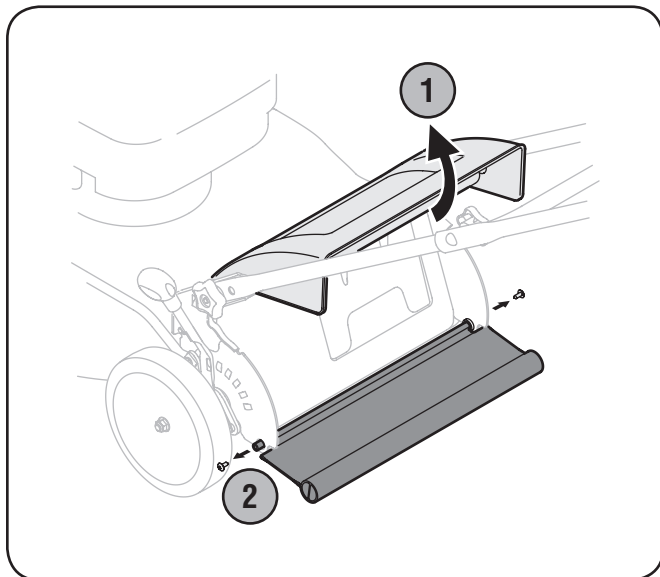

Figure 6-2
1. To remove rear flap, lift rear door, and remove screw on either side to remove from hole. See Figure 6-2.